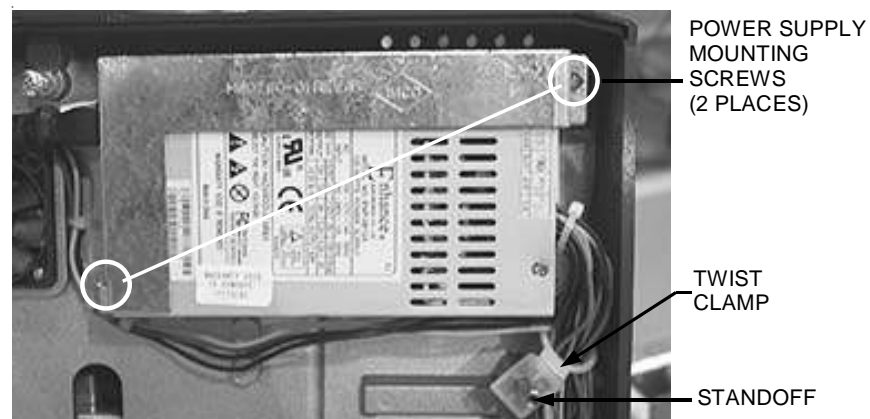

FIGURE 5 - POWER SUPPLY
13. Remove the standoff securing the twist clamp in the upper right corner of the game, then undo and remove the clamp (see Figure 5).
14. Remove the 2 screws fastening the power supply mounting bracket to the game (see Figure 5) and remove the power supply.
1. Install the new power supply by placing it in the unit and securing it with the screws and bracket that held the old power supply (see Figure 5). Be sure that the power supply is installed with the IEC connector on the top-left.
2. Replace the twist clamp around the larger set of wires that will run to the motherboard and I/O board, then reinstall the standoff (see Figure 5).